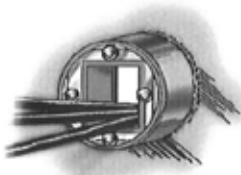

Figure 1
3. Cables are pulled through opening (Figure 1)